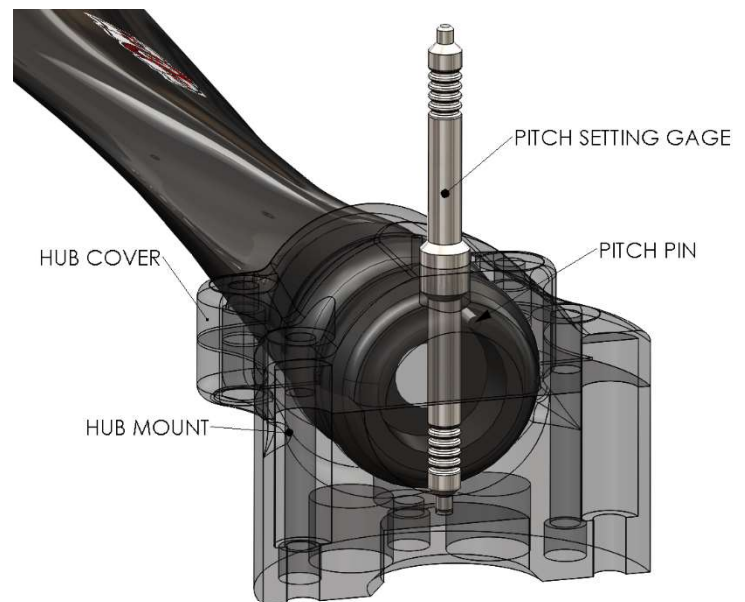

FIGURE 6. PITCH SETTING GAGE DETAIL
8. Insert the pitch setting gage through the clearance hole in the hub cover half and into the receiving hole in the hub mount half. See **Figure 6**. Be sure to use the nominal setting of 4 to start. The pitch setting # indicates relative pitch; pitch 5 is higher pitch than pitch setting 4, etc...
4. Insert the desired pitch setting gauge thru the clearance hole in the hub cover half and into receiving hole in the hub mount half. See **Figure 6.**